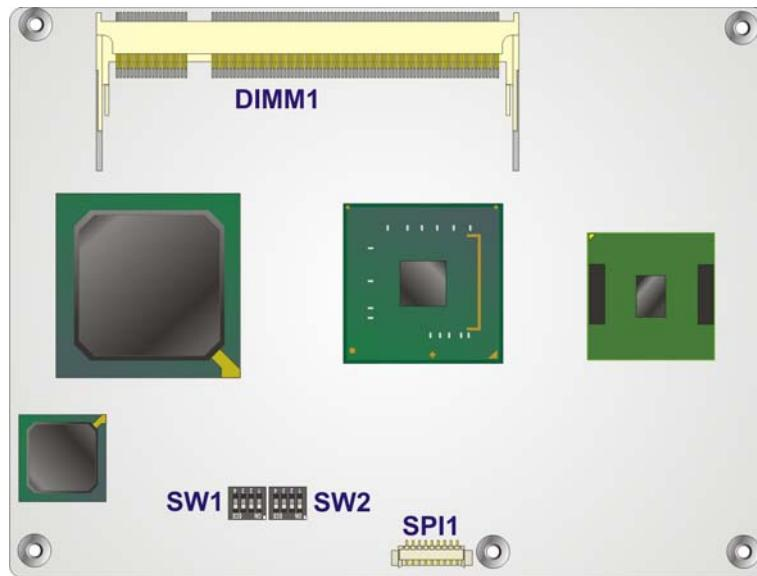

Figure 4-1: Connector and Jumper Locations (Front Side)
**Figure 4-1** shows the on-board peripheral connectors, backplane peripheral connectors and on-board jumpers.